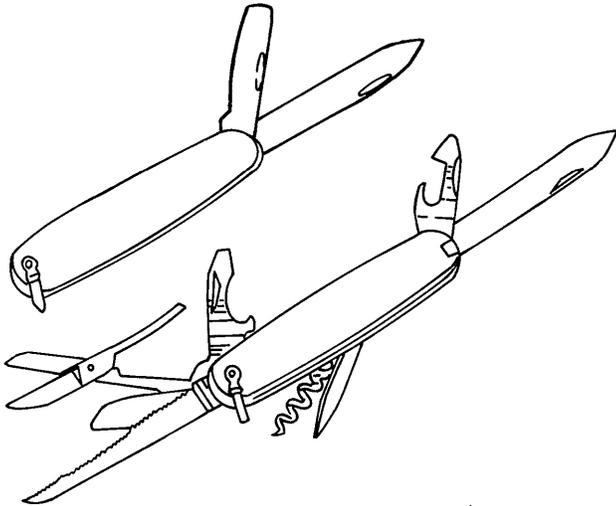

Figure 4-51. Pocket Knives
(2) **Pocket knife.** Pocket knives are used for light cutting, sharpening pencils, cutting string, and whittling. They are not suitable for heavy work. There are many styles and shapes as shown in figure 4-51. Some are multipurpose and have an assortment of blades which are used for forcing holes, driving screws, opening cans, as well as cutting. The blades are hinged and contained within the case when not in use and are spring loaded to keep them firmly in place when open or closed.